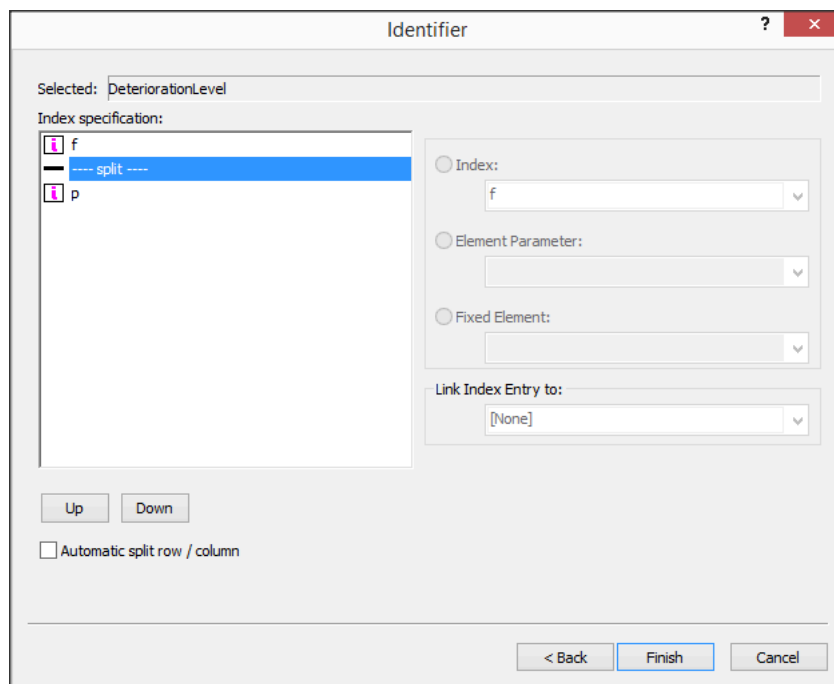

Figure 11.4: Specifying the row and column domain
- ▶ select the 'split line' entry that pops up in the listbox (see Figure 11.4),